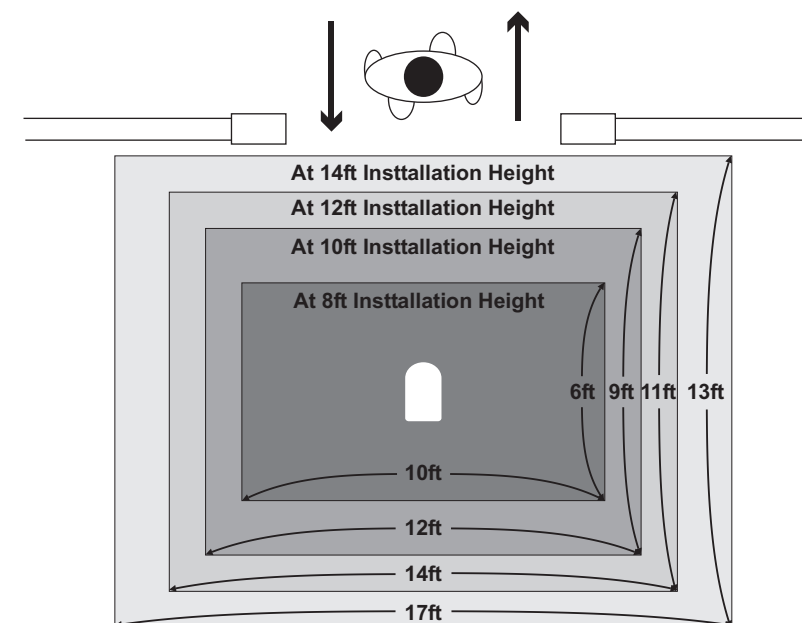

Fig. 1 Installation Heights and Detection Area
Refer to the dimensions of Detection Area for each installation height (Fig. 1) and clear the Detection Area from any movement of objects other than intended traffic.
Refer to the dimensions of Detection Area for each installation height on page 5 (Fig. 1), and place the Camera unit so that the passage is fully covered by the detection area.
Step 1) Refer to Fig. 1 and find the dimensions of detection area at your intended installation height